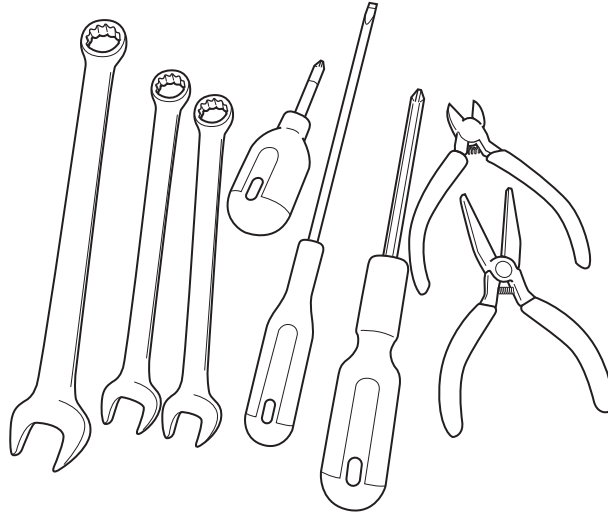

Fig. 6
- suitable for carrying the tools shown in Fig. 6 securely.